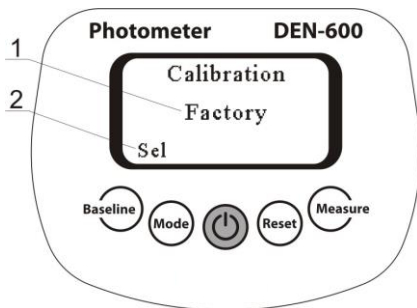

Figure 5. User and factory calibration selection
- 5.8.1. **Restoring to McF factory calibration settings (Figure 5).** Enter user calibration regime by pressing **Baseline** key 5 times in **McF** measurement mode, press **Mode** key 2 times, then select between User and Factory calibration settings by pressing Sel (**Baseline** key, fig. 5/2), to exit the menu press **Reset** key.